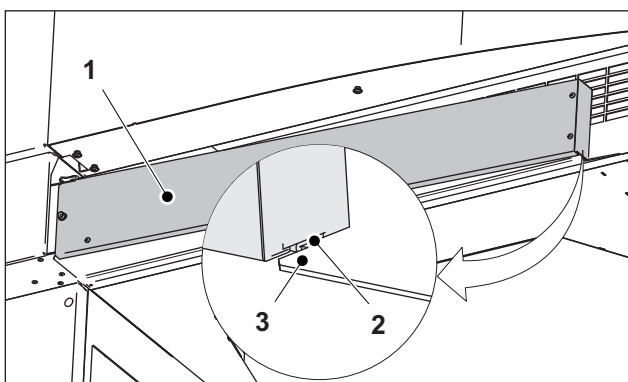
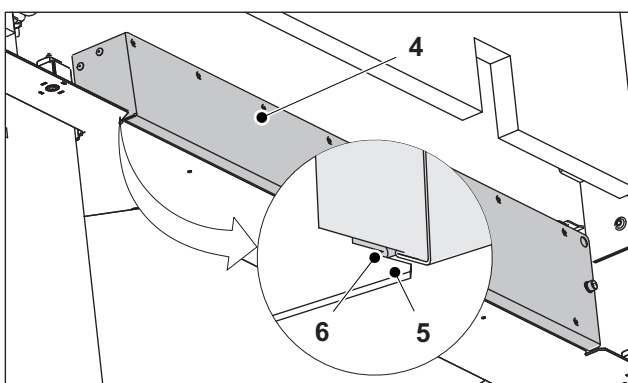

Fig. 69 Fold on the suction duct D.S.
Fig. 70 Fold on the suction duct O.S.
- Be sure to guide the fold on the suction duct (Fig. 69/2 and Fig. 70/6) under the plate (Fig. 69/3 and Fig. 70/5).